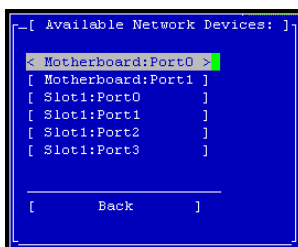

Figure 222. Selecting an Interface to Configure
1. On the Configuration Interface main menu, tab to Network TCP/IP Settings and press Enter. The Available Network Devices window opens, shown in Figure 222.